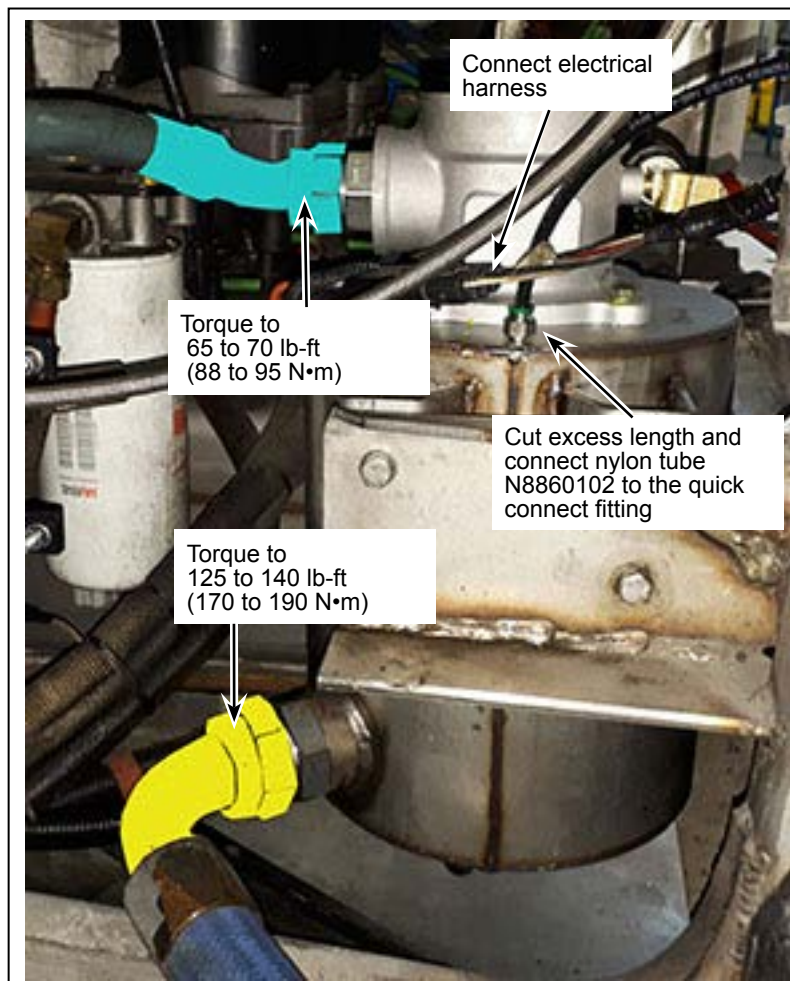

Figure 7 - Hydraulic Hose Torque
- 1.18. Connect the hydraulic hoses to the tank. See Figure 7 for torque value.
- 1.19. Cut the excess length of the 1/4" nylon tube 8860102 and connect to the quick connect fitting located on top of the hydraulic tank. If needed secure the tube using tie wraps See Figure 7.
- 1.20. Connect the engine compartment harness to the hydraulic tank harness installed on the new N93676 hydraulic tank. Secure the harness using a tie wrap if needed. See Figure 7.